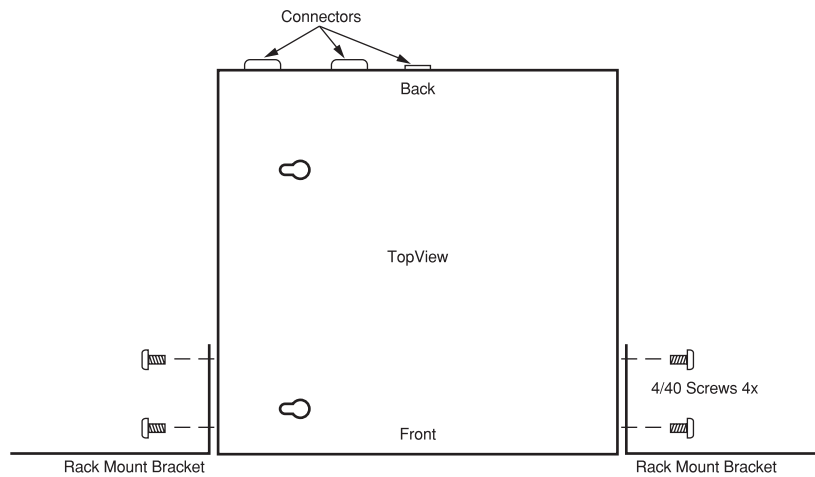

Figure 2-4 Connecting the *i.LON 1000* Rack-mounting Brackets
3. Align the holes on the short side of one bracket with the holes on the side of the *i.LON 1000*. Insert one of the small screws (4/40) into each hole and tighten with the screwdriver as shown in Figure 2-4.